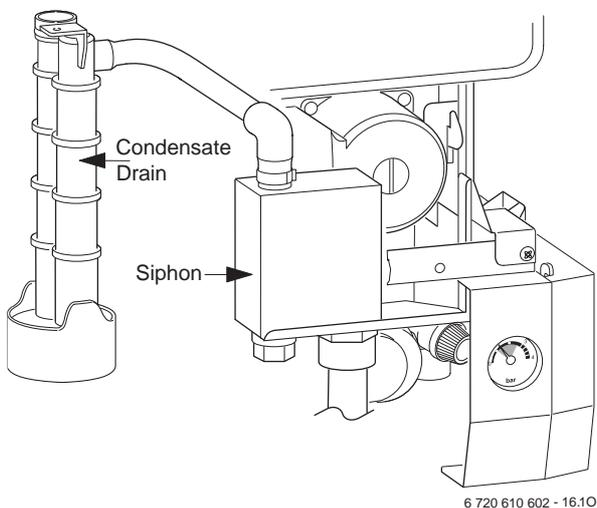

Fig. 51
- ▶ Unscrew and remove the the siphon by releasing the jubilee clip. Refer to fig. 51.